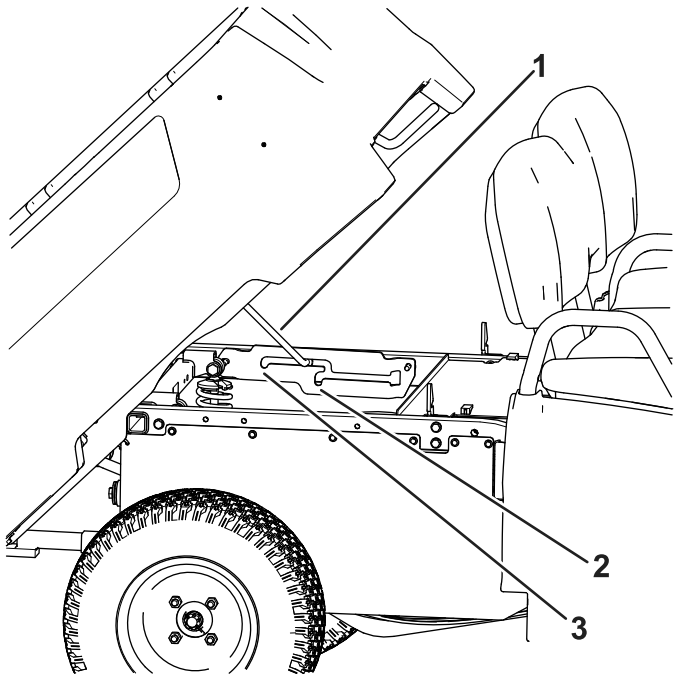

Figure 18
2. Pull the prop rod into the dump position detent slot to secure the bed for dumping (Figure 18).
2. Pull prop rod into the service position detent slot to secure the bed for maintenance (Figure 18).
2. Pull the prop rod out of the detent slot (Figure 18).